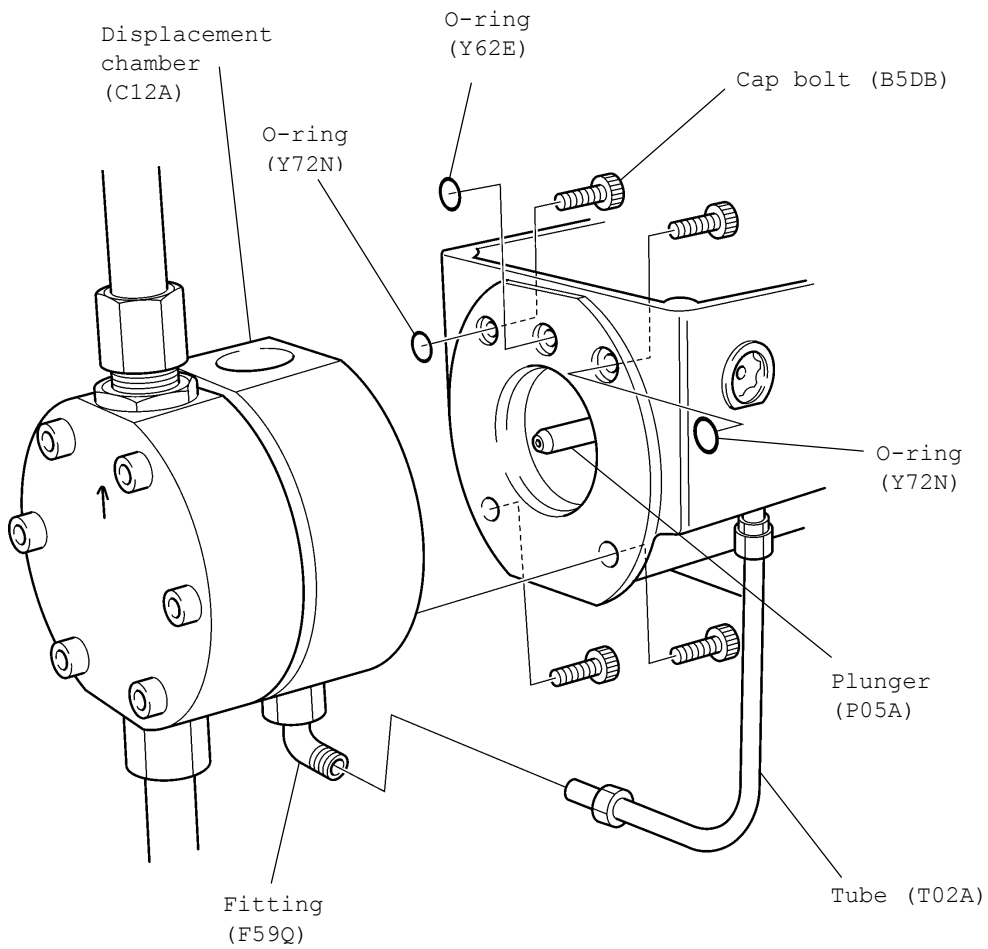

Fig. 7-13 Removal of displacement chamber (DV-1.8)
- (3) Confirm the O-ring is installed, then mount the displacement chamber. Refer to Fig. 7-13.